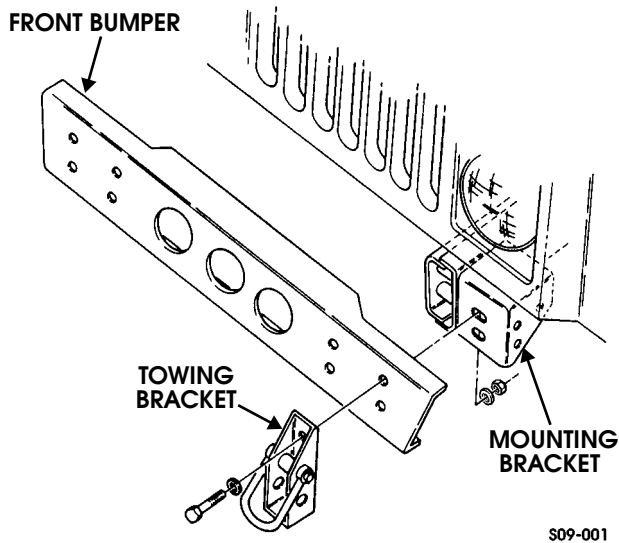

Figure 9-123: Front Bumper and Towing Bracket Replacement for Vehicles Without Winch
2. Remove four locknuts, washers, bolts, washers, two towing brackets, and front bumper from mounting brackets (Figure 9-123).
1. Install front bumper and two towing brackets on mounting brackets with four washers, bolts, washers, and locknuts. Tighten bolts to 90 lb-ft (122 N•m) (Figure 9-123).